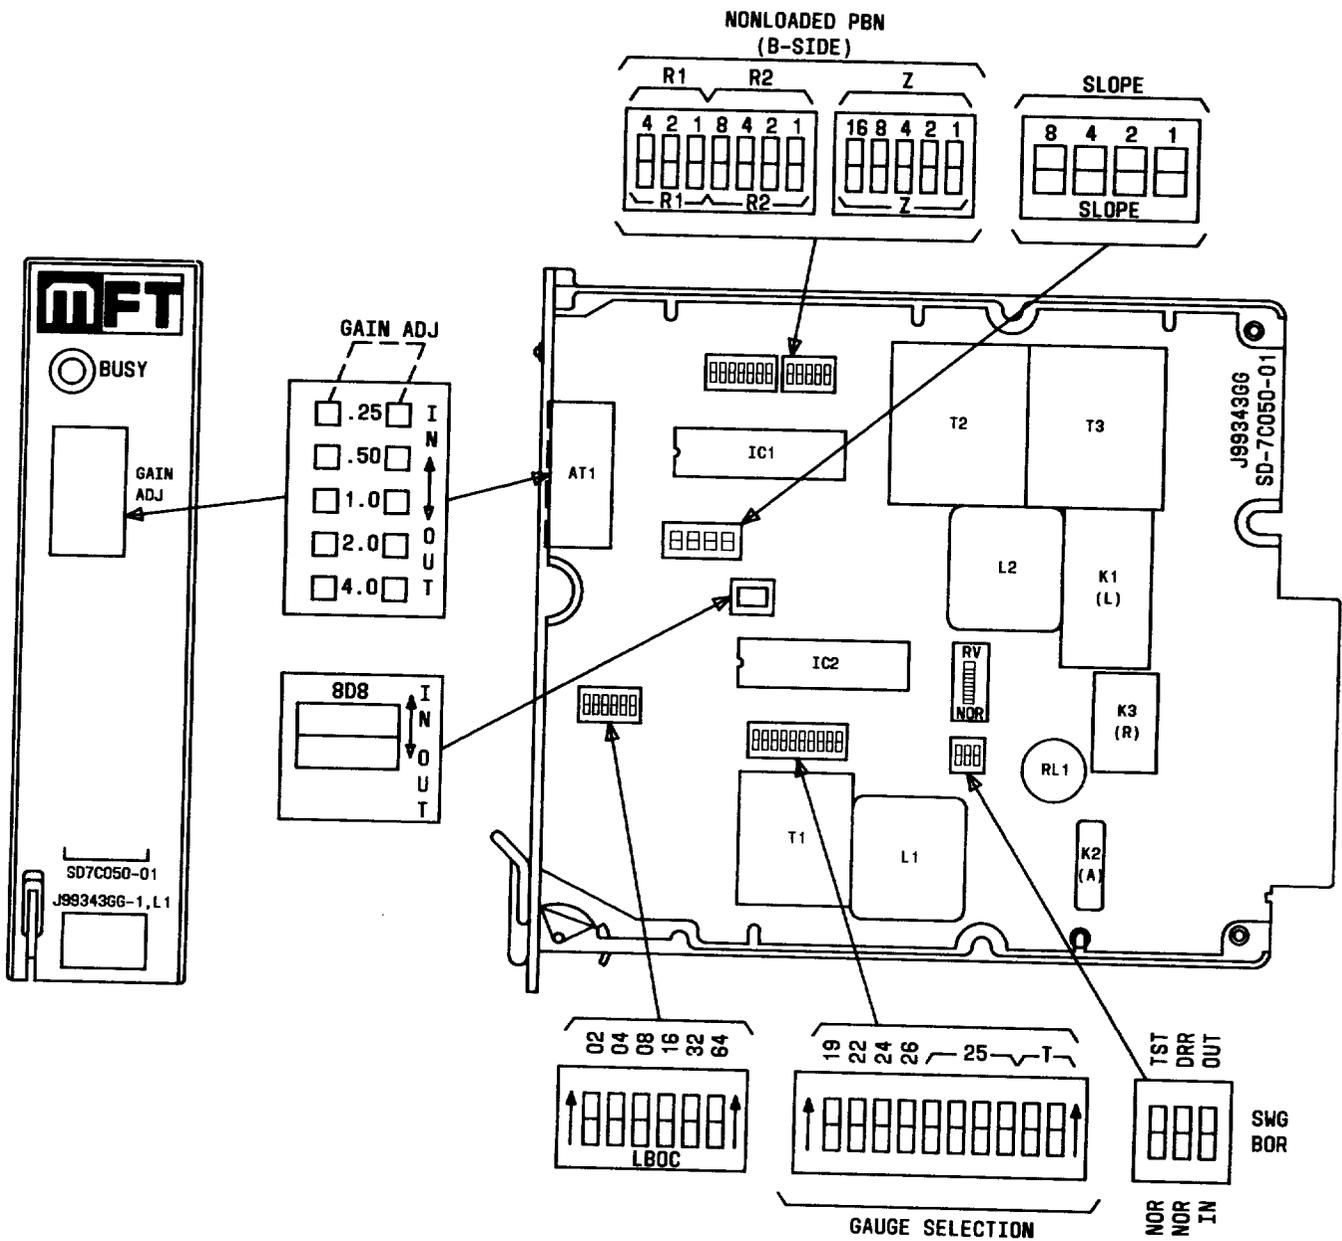

Fig. 1—J99343GG, L1 Switch Layout
1.03 The J99343GG, L1 & L2 and GK CFUs, shown in Fig. 1, 2, and 3 provide gain and equalization for application between loaded (A-side) and nonloaded (B-side) facilities. These units also provide regeneration of loop start signals. With proper switch selection, they can be arranged to operate as 2-2 wire nonloaded terminal repeaters. More detailed descriptive information about these units is provided in Section 332-912-158. Prescription setting information for these units is given in Section 332-912-212 (2-2 wire repeaters).
2.02 Figures 1 through 3 show the location of the individual unit controls. These controls must be set properly prior to the installation of the units. The settings are determined by circuit application and are to be supplied by the local circuit layout organization. This organization can use the following sources to provide this information:
6.02 The LBOC settings of the J99343GG, L1 & L2 and GK CFUs are controlled by six miniature switches (see Fig. 1 through 3) on the printed wiring board. These switches are labeled 02, 04, 08, 16, 32, and 64. The numbers indicate the capacitance value added when the switches are operated toward their labeled designations. For example, the switch labeled 04, when operated, applies 0.004 μF of capacitance across the 2-wire facility on the A-side. The capacitance of the LBOC is additive; for example, if the switches labeled 02, 06, and 16 are operated, 0.024 μF of capacitance is added to the A-side facility.
7.04 Adjustment of the PBN for the transformer hybrid on the B-side is done through the operation of 12 switches located on the printed wiring board. The switches are labeled as follows: three switches labeled R1 (designated 4,2,1); four switches labeled R2 (designated 8,4,2,1); and five switches labeled Z (designated 16,8,4,2,1 [see Fig. 1 through 3]). If the B-side facility makeup is known, the PBN setting can be determined from one of the sources given in paragraph 2.02.